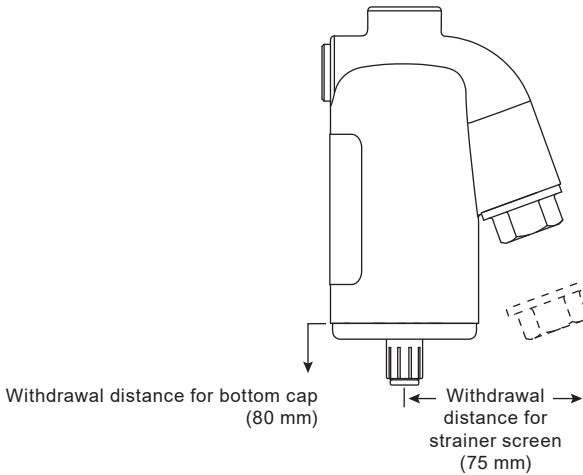

Fig. 2
- Adequate space should be provided around the unit to allow easy access for routine maintenance requirements (see Figure 2 for withdrawal distances).